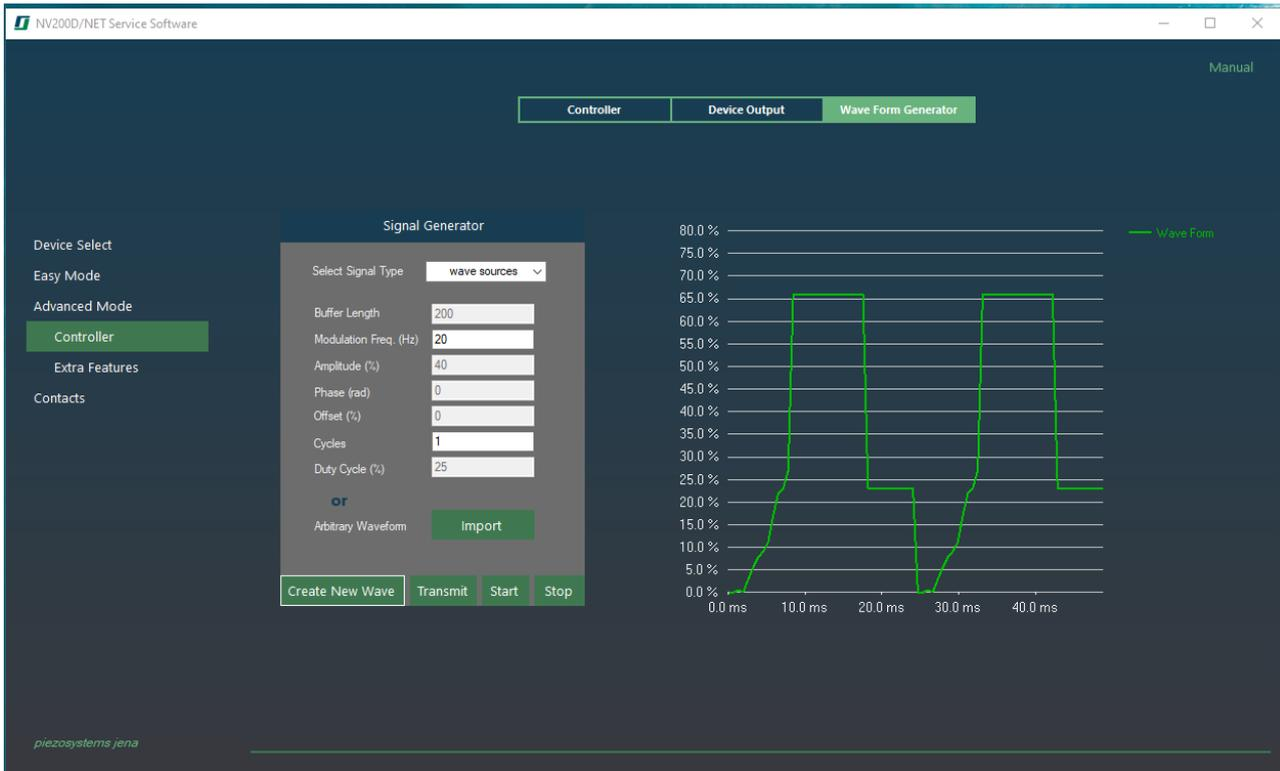

Figure 12 Preview of Imported arbitrary wave
- **Create New Wave** – this will load the desired arbitrary waveform to the chart so that can be previewed before sending (**Figure 12**).